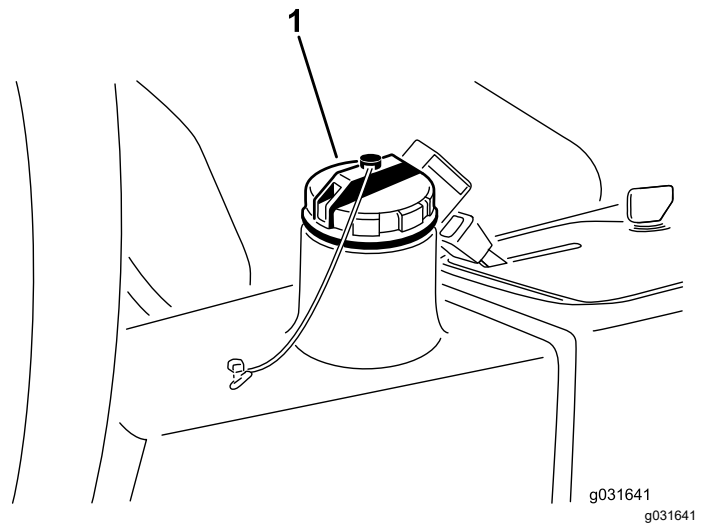

**Figure 60**
2. Disconnect the hydraulic line or remove the hydraulic filter and let the hydraulic fluid flow into a drain pan (Figure 62 and Figure 60).
3. Install the hydraulic line when the hydraulic fluid stops draining (Figure 60).